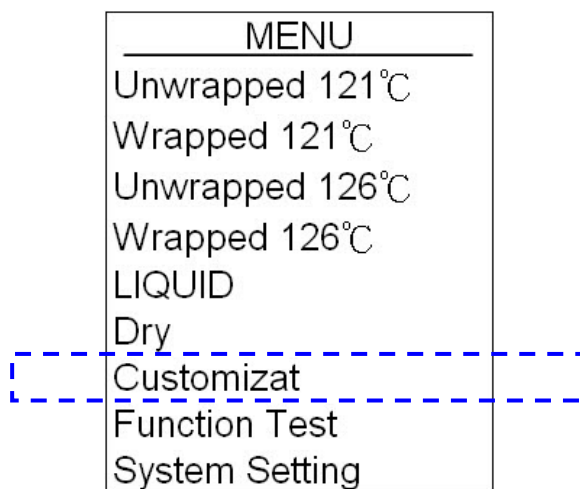

Figure 81
- C. Press  or  button to select Customization program (Figure 81), and then press  button to select customization program, as shown in Figure 82